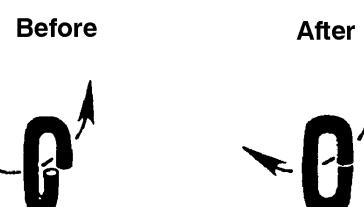

Figure 9
- Using an adjustable wrench, twist the link horizontally until the link is in the original closed position. See Figure 9.